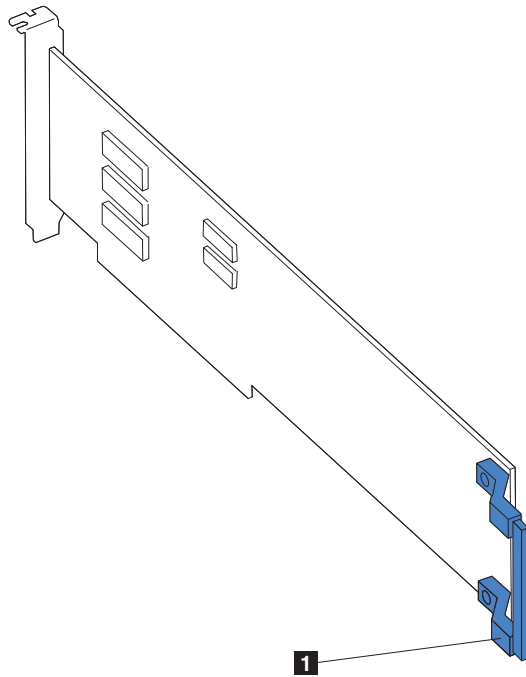

Figure 46. Location of the adapter guide on a full-length adapter
- a. If you are installing a full-length adapter, remove the adapter guide (if any) from the end of the adapter (see Figure 46).